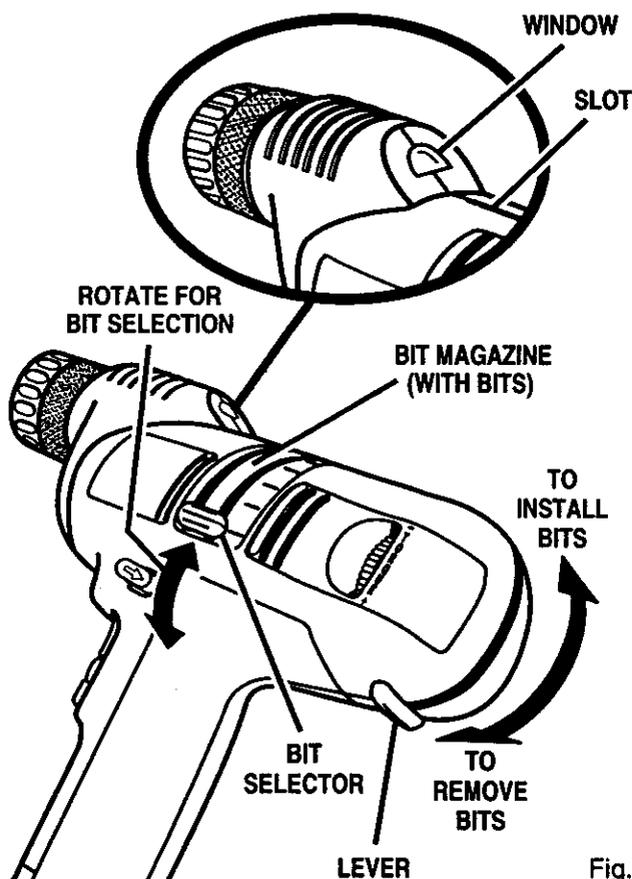

Fig. 9
See Figure 9.
- To load bit into chuck, locate lever at back of housing and rotate in the direction of the arrow as shown in figure 9. **Note:** When bit is at top of housing, the magnetic mechanism inside housing keeps the bit from falling out of chuck.
- Rotate lever on back of housing in the direction of the arrow as shown in figure 9.